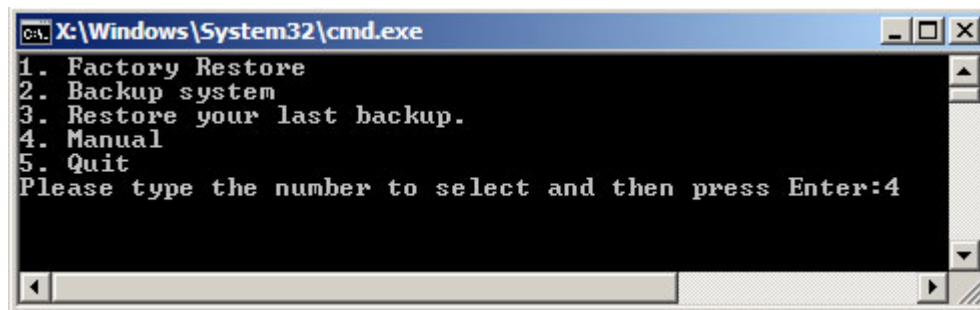

Figure A-11: Recovery Tool Menu
Step 2: The recovery tool menu appears. Type <**4**> and press <**Enter**>. (**Figure A-11**)